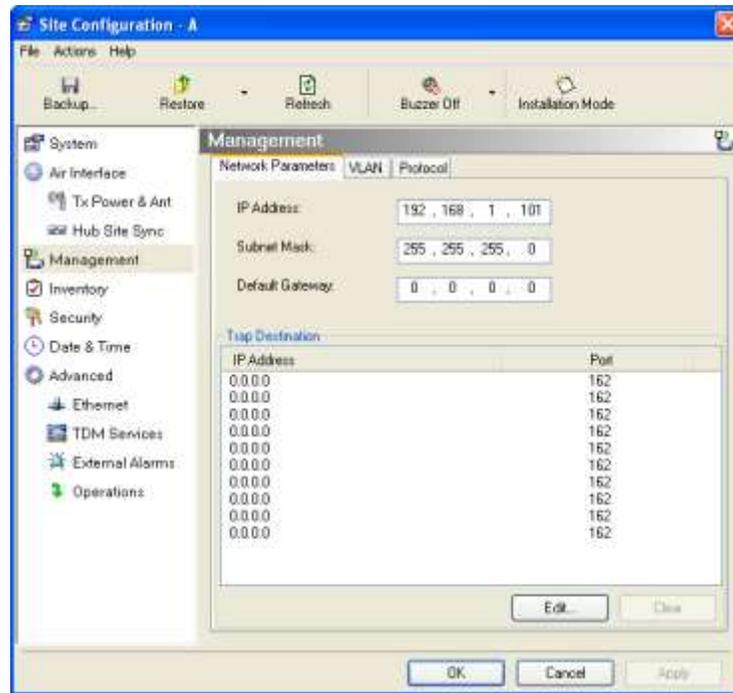

Figure 4-20. Site Configuration, Management
3. Select **Management** (see *Figure 4-20*).